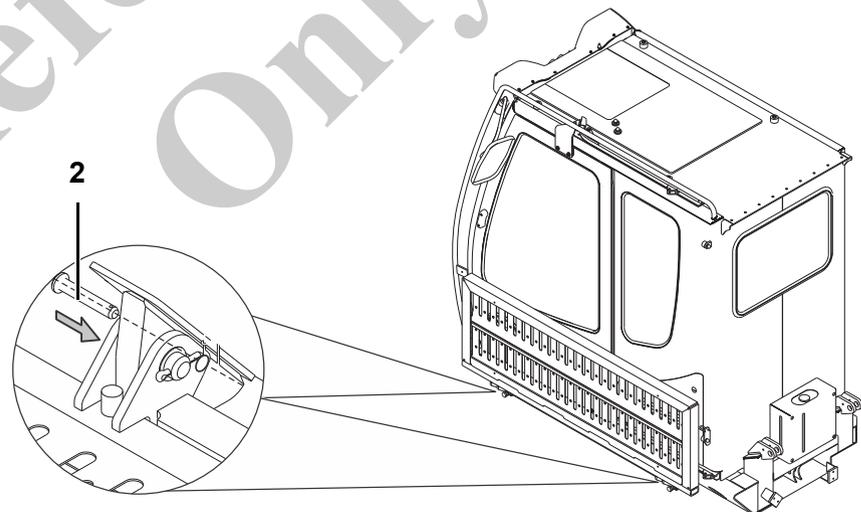

Fig. 99 Stowing walkways
- 3 Insert and secure the rear pins (2) in Fig. 99.